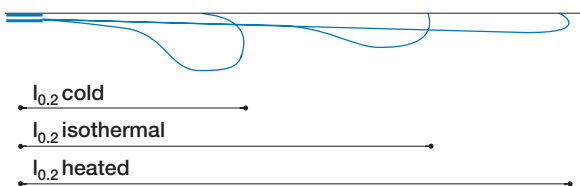

Fig. 11, Air throw $l_{0,2}$ for diffusers mounted in ceiling.
1. When air is supplied horizontally with cold air, the air throws are reduced by 1,5% per degree (Figure 11), while the vertical spread b_v is increased.
2. When air is supplied horizontally with heated air, the air throws are increased with 2% per degree (Figure 11).